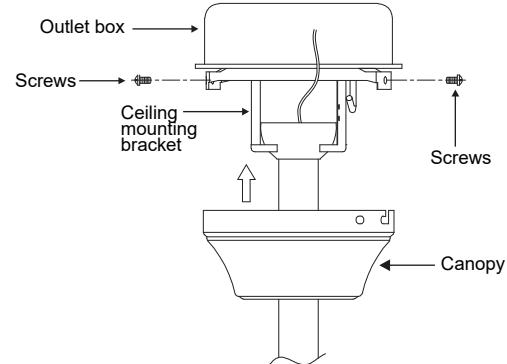

Fig. 12
**Step 2.** Slide the canopy up to ceiling and attach the canopy to the ceiling mounting bracket using 4 screws at the top edge of the mounting bracket. Insert each screw through the canopy mounting hole and into the mounting bracket. Tighten all screws securely. (**Fig. 12**)